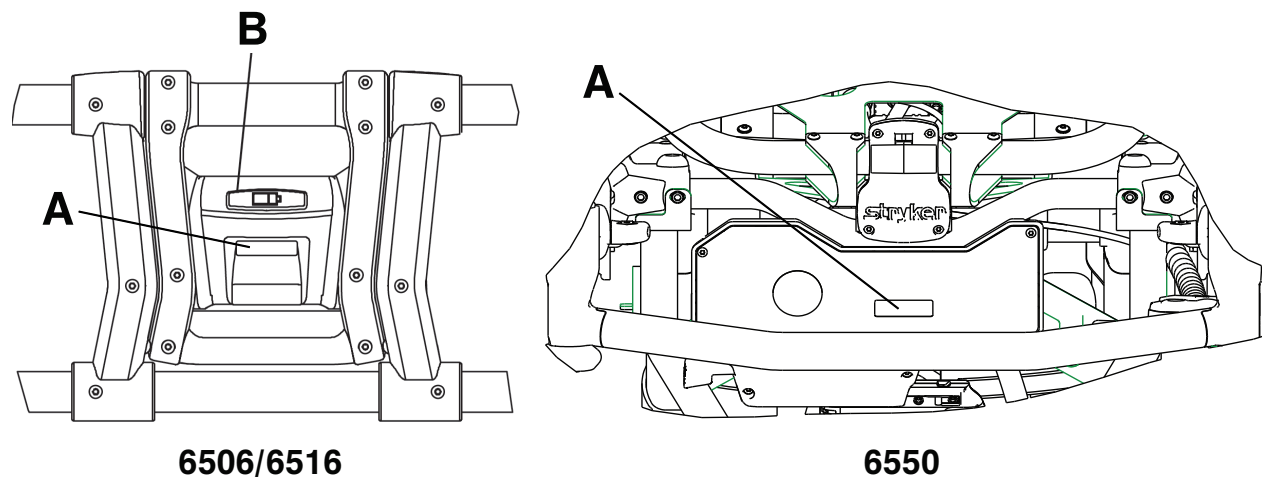

Figure 13 – Checking the hour meter (A), error display (A), and battery status (B)
Use the hour meter (A) to determine the frequency of preventive maintenance. Use the error display (A) for troubleshooting (Figure 13). The error display overrides the hour meter display when an error occurs.